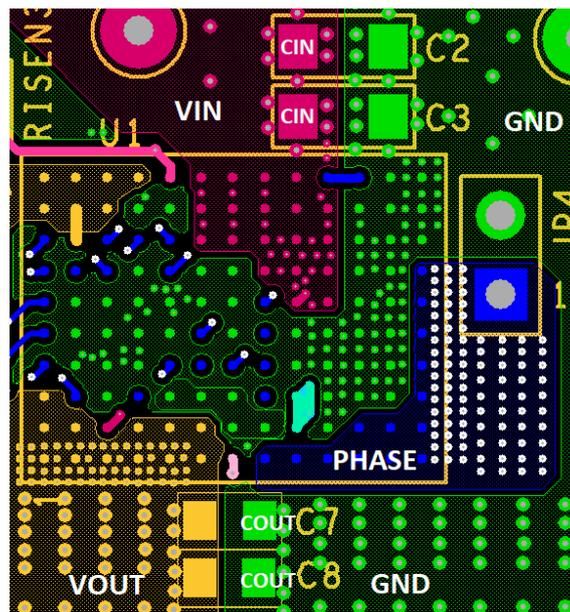

Figure 38. Layout Example - Top Layer, Showing Location of VIN and VOUT Capacitors
- Place the input capacitors and high frequency decoupling ceramic capacitors between VIN and PGND as close to the module as possible. The loop formed by the input capacitors, VIN, and PGND must be as small as possible to minimize high frequency noise. Place the output ceramic capacitors close to VOUT. Use a copper plane to connect the output ceramic capacitors to the load to minimize any parasitic inductances and resistances. An example layout is illustrated in Figure 38.